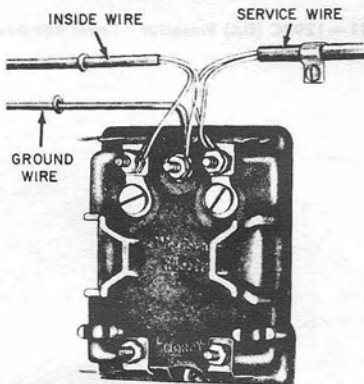

Fig. 79—Alternate Method of Converting 106C Protector
13.03 The 106C protector may be converted to fuseless operation by connecting the aerial or buried drop input line wires directly to the station side of the protector, provided the line wires are of sufficient length. The fuses may then be removed (Fig. 79). Where the input line wires are too short to